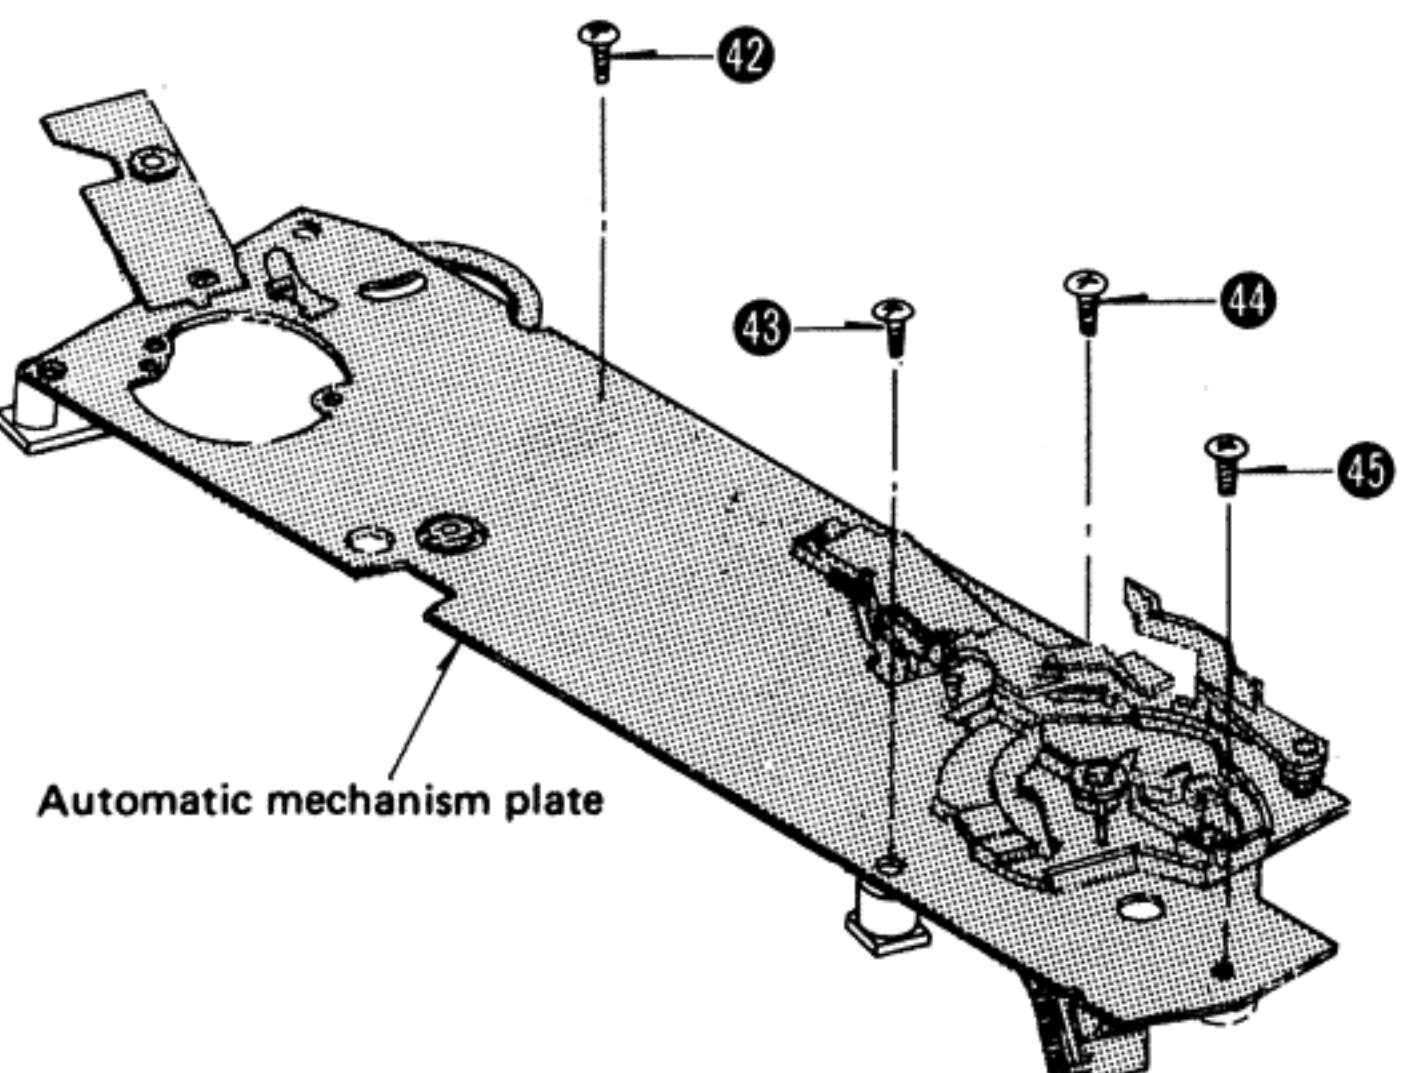

Fig. 11
4. Remove the mechanism plate setscrews ④② ~ ④⑤. Then, the mechanism plate can be removed. (See Fig. 11)